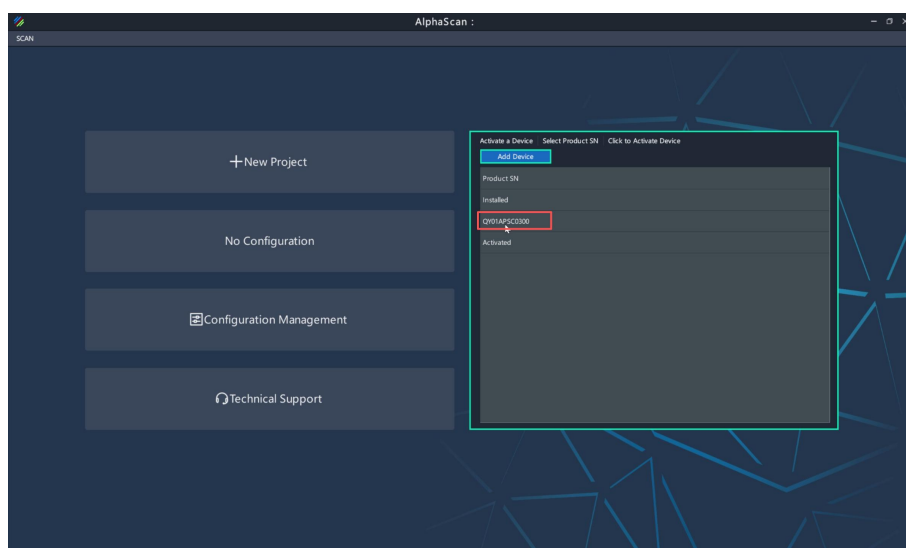

Figure 17
(3) The configuration file you just selected will appear under Installed, as shown in Figure 17.